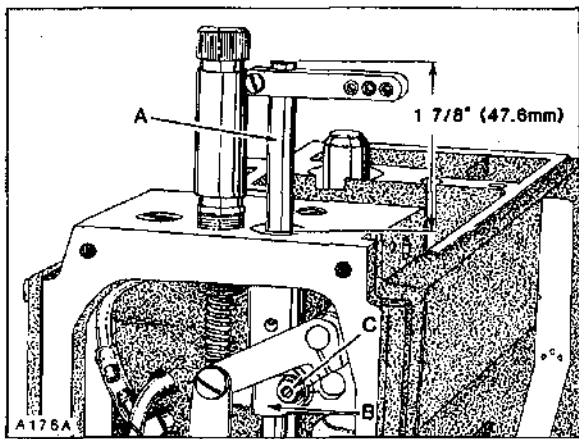
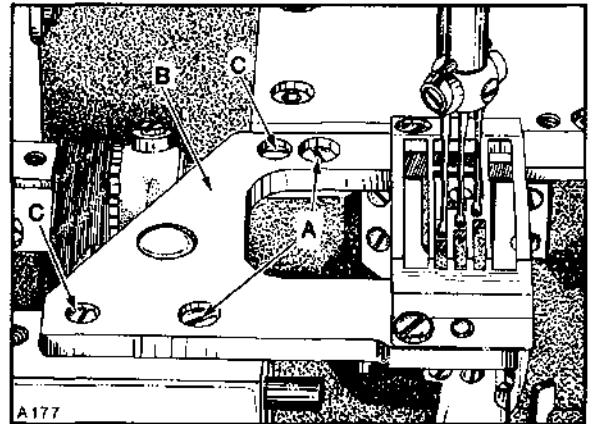

Fig. 7
Fig. 8
Insert a new set of needles. As a temporary setting, the TOP of needle bar (A, Fig. 7) should be approximately 1 7/8 inches (47.6mm) from the TOP of upper needle bar bushing when needle bar connection (B) is positioned at TOP of STROKE as shown in Figure 7. Adjustment can be made by loosening screw (C), reposition needle bar up or down as required and tighten screw (C) VERY LIGHTLY.
Rotate handwheel to ensure that needles center in the needle holes of throat plate as shown in Figure 8. Adjustment can be made by loosening screw (C, Fig. 7) slightly, allowing needle bar to be rotated as required, while being careful to maintain the temporary height setting and tighten screw (C) AS SPECIFIED. An additional 4-way directional adjustment of the throat plate can be accomplished as follows:
IMPORTANT: Adjustment of throat plate must be coordinated between needles and feed dog; refer to "FEED DOG SETTINGS". Loosen two screws (A, Fig. 8) in throat plate support (B). Loosen two screws (C) which secure locating ferrules, allowing the throat plate support to be repositioned slightly. Tighten screws (C) first, then screws (A).